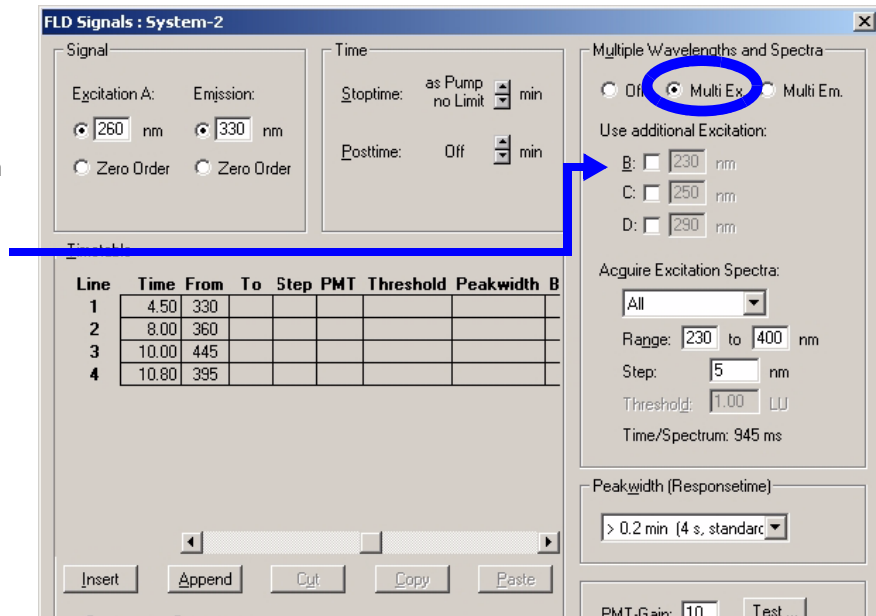

Figure 39 Detector Settings for Excitation Scan
- Using the settings and the timetable (from previous page), do a second run for the evaluation of the optimal excitation wavelength. See Figure 39.